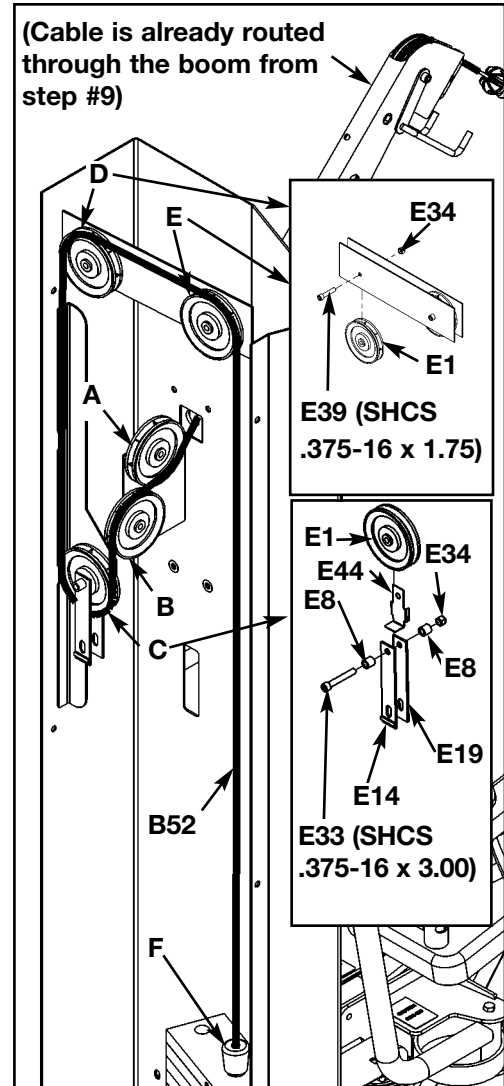

Figure 18
- B.** With an assistant install upper boom (#B25) as shown in Figure 18 using the four SHCS .375-16 x .875 (#B31) and four nylon locknuts (#B35).
**10. Route weight stack cable around pulleys to weight stack** (see steps 10A - 10G and Figure 18).
- A.** At the same time, route cable (#B52) and install first pulley (#E1) on inside of column using one SHCS .375-16 x 1.75 (#E39) and one nylon locknut .375-16 (#E34). See Figure 18, letter A.
- B.** At the same time, route cable (#B52) and install second pulley (#E1) using one SHCS .375-16 x 1.75 (#E39) and one nylon locknut .375-16 (#E34). See Figure 18, letter B.
- C.** At the same time, route cable (#B52) and install third pulley (#E1), pulley tab (#E19), adjuster (#E14), cable retainer (#E44) and route cable (#B52). Use SHCS .375-16 x 3.00 (#E33), two spacers (#E8) and nylon locknut (#E34). See Figure 18, letter C. **NOTE:** Tab on bracket needs to be located on the outside.
- D.** With an assistant holding the hanging pulley installed in step C, route cable (#B52) upward and install fourth pulley (#E1) one using adjuster (#E14), one pulley tab (#E19), one SHCS .375-16 x 3.00 (#E33) and one nylon locknut (#E34). See Figure 18, letter D. Verify cable is resting between the pulley (E1) and the retainer tab.
- E.** With an assistant holding the hanging pulley, (at the same time) route cable (B#52) and install fifth pulley (#E1) using one SHCS .375-16 x 1.75 (#E39) and one nylon locknut (#E34). See Figure 18, letter E.